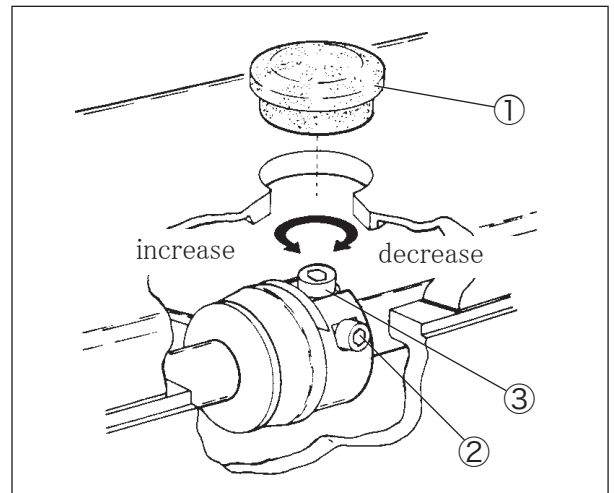

Fig. 6-34
- (3) Rotate the handwheel until the adjusting screw ③ comes right above. (Fig. 6-34)
- (4) Turn the adjusting screw ③ to adjust the feeding amount.
- (5) Tighten the screw ② with a tightening torque of 2.5 N·m securely.